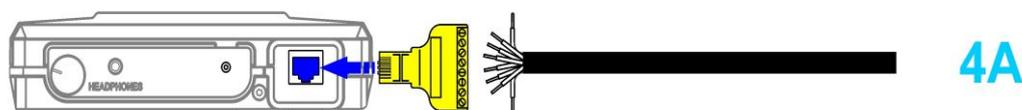

Fig.8
For test of the low-current multi-wire cables which are not equipped with a plugs or sockets, use the adapter (Fig.1, item 16). The scheme of connection is shown in Fig.8.